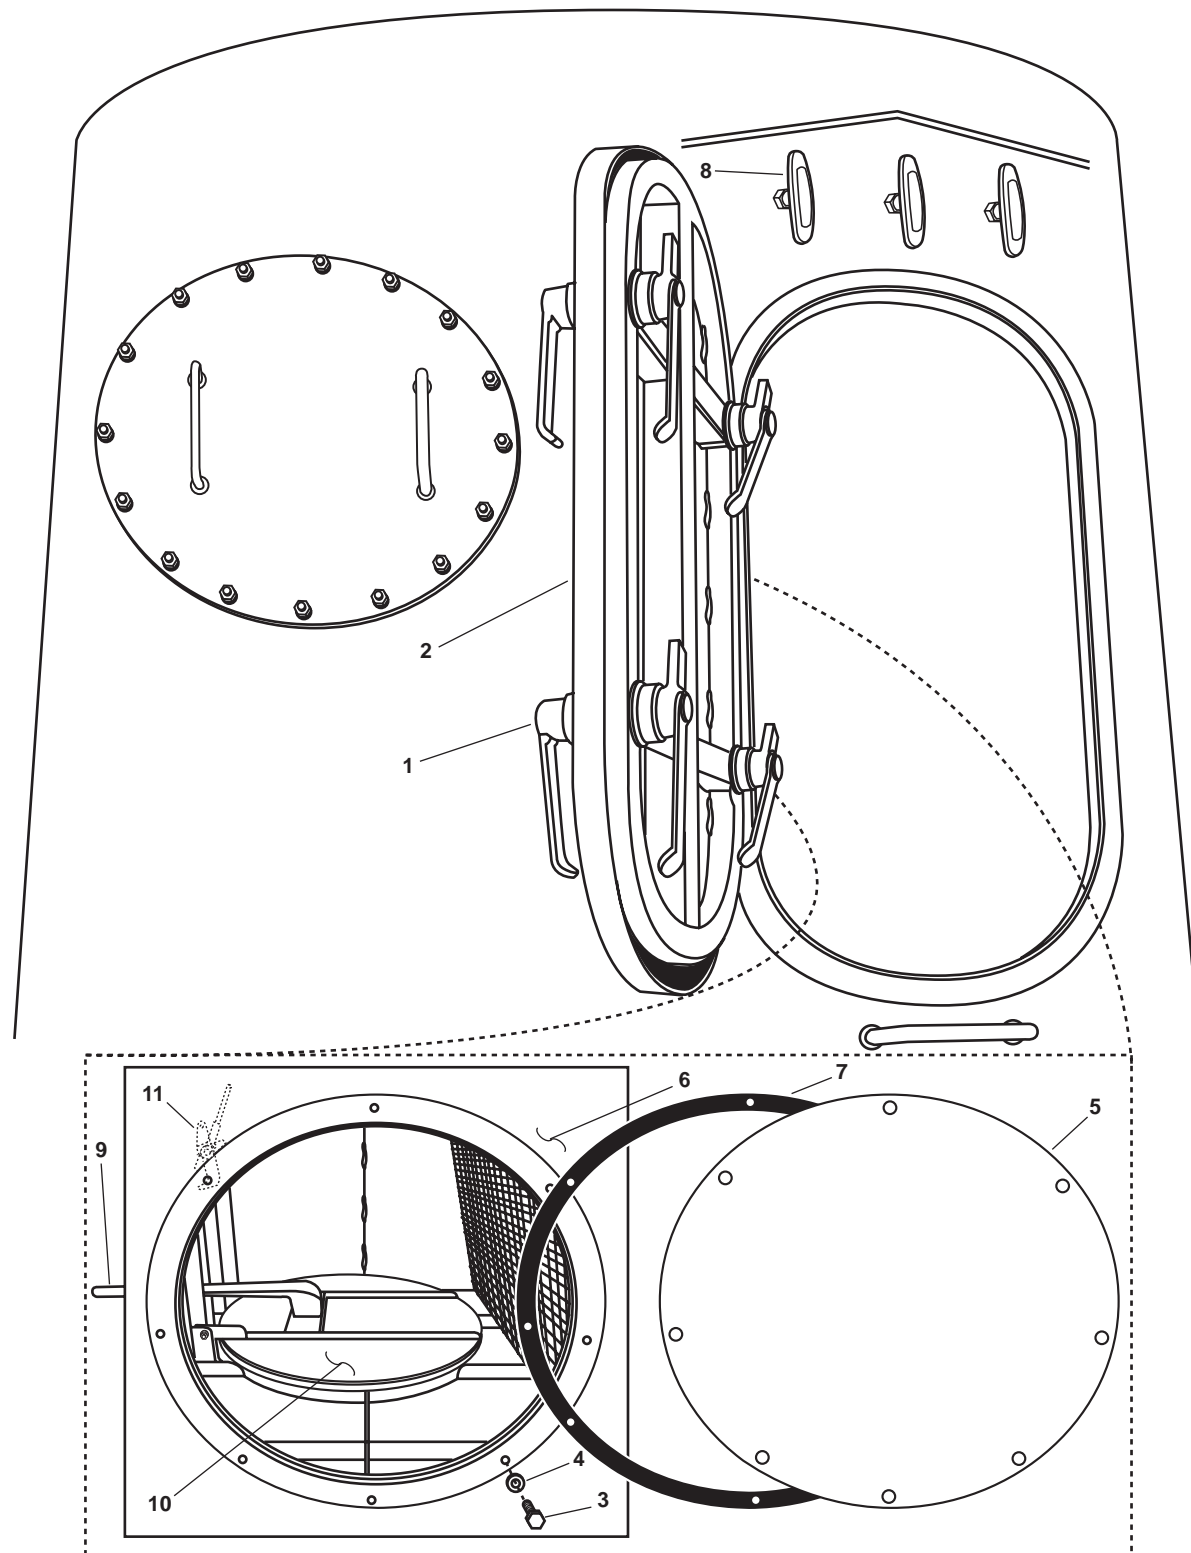

Figure 8. Access to Engine Room Ventilation Exhaust Assembly Fire Flap
1. Gain access to the inside of the stack on the 02 level by loosening the four dogs (figure 8, item 1) and opening the watertight hatch (figure 8, item 2).
2. Remove the eight bolts (figure 8, item 3) and eight flat washers (figure 8, item 4) from the manhole cover (figure 8, item 5).
3. Remove the manhole cover (figure 8, item 5) from the engine room exhaust fire flap assembly housing (figure 8, item 6).
4. Remove the gasket (figure 8, item 7) from the manhole cover (figure 8, item 5). Inspect the gasket for damage. Discard the gasket if damaged, retain if intact.
5. Push the quick release T handle (figure 8, item 8) all the way in.
6. Have one crewmember push the engine room exhaust fire flap handle (figure 8, item 9) down, raising the engine room exhaust fire flap (figure 8, item 10) up, while a second crewmember secures it in the OPEN position with the quick release latch (figure 8, item 11).
7. Install a new gasket (figure 8, item 7) on the engine room exhaust fire flap assembly housing (figure 8, item 6).
8. Install the manhole cover (figure 8, item 5) and secure it with the eight flat washers (figure 8, item 4) and the eight bolts (figure 8, item 3).
9. CLOSE the watertight hatch (figure 8, item 2) and tighten the dogs (figure 8, item 1).